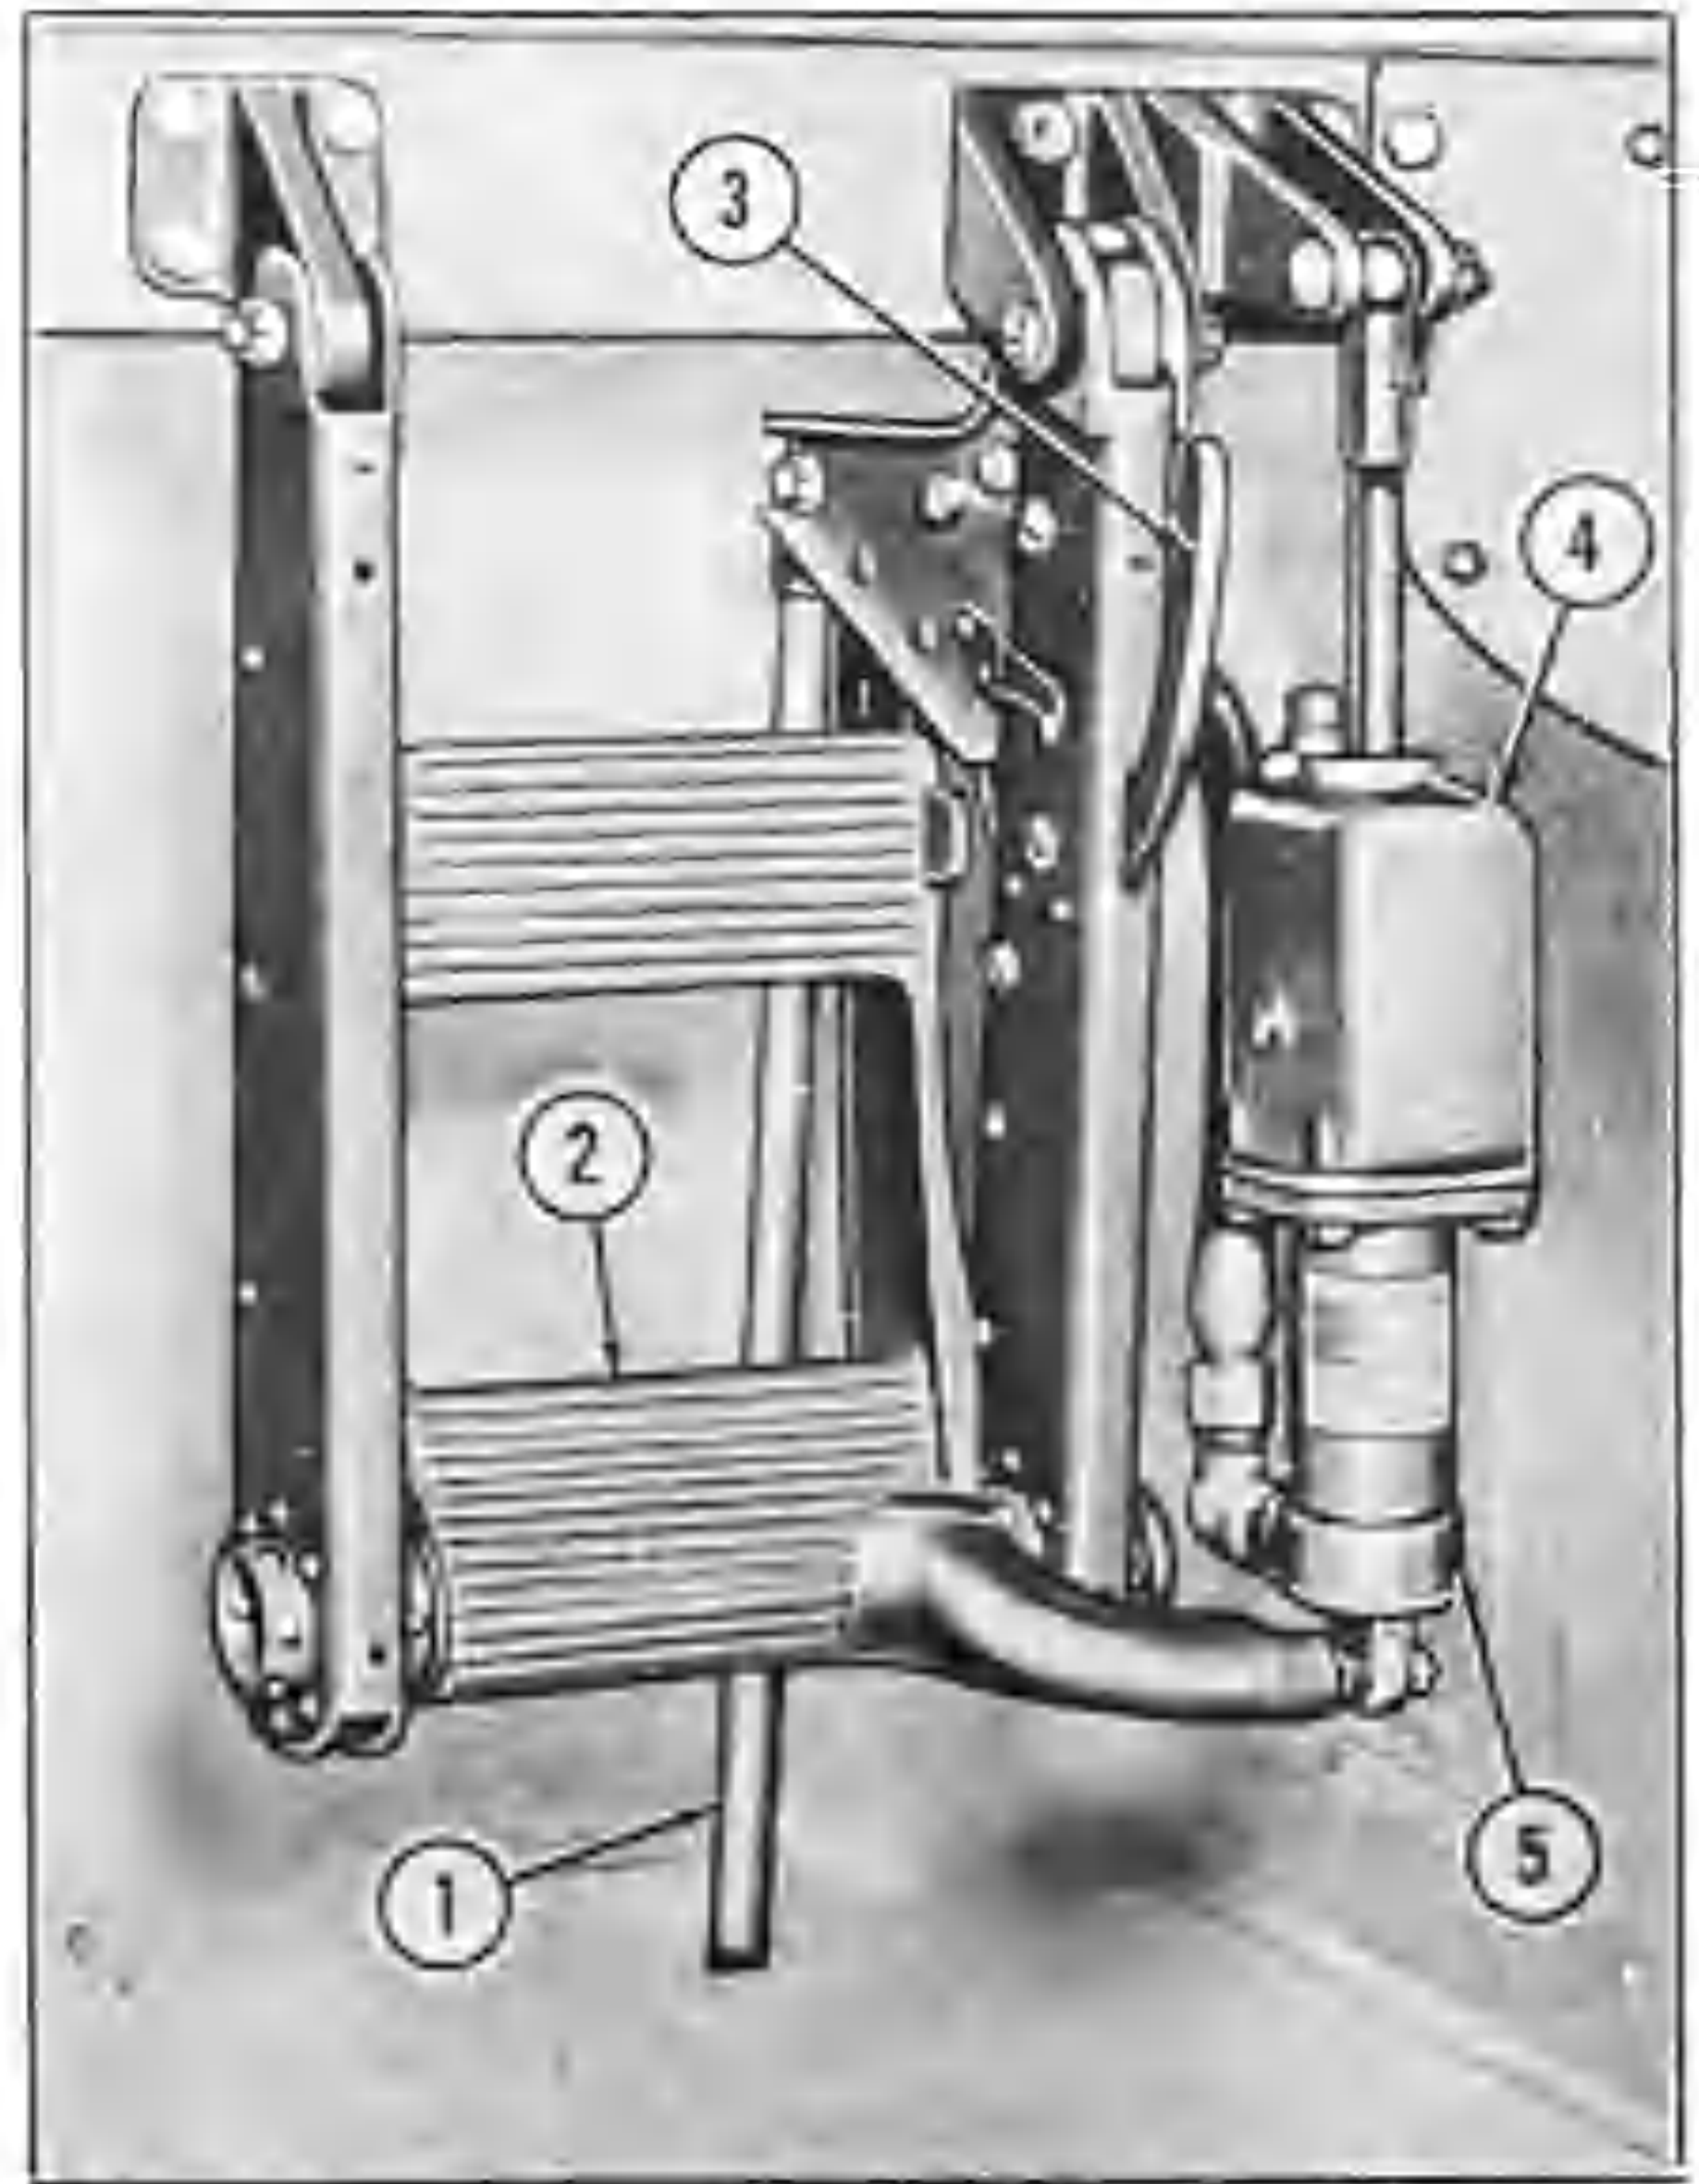

Figure 17 — Rudder and Brake Pedal
(6) BRAKES. — The brake hydraulic systems are entirely independent of each other and of the main hydraulic system. (See figure 17.) The brake reservoir is carried on the rudder pedal as an integral part of the brake master cylinder. (See 4, figure 17.) The action of the brake pedal is conventional: pressing the upper end (toe end) of the rudder pedal forward actuates the master cylinder and applies the brake. No provision is made either for parking brakes or for adjustment of the brake control relative to the rudder pedal.
(7) ARRESTING HOOK CONTROL. — The arresting hook control of the F2G-2 is on the forward left-hand control panel beside the landing gear control. The two controls are so designed that it is impossible to lower the arresting hook without first extending the landing gear, and likewise impossible to retract the landing gear without first raising the arresting hook.
(1) GENERAL. — Aileron, elevator and rudder controls are conventional. All three of these major control surfaces are equipped with trim tabs, adjustable from the cockpit. The ailerons and elevators also have servo tabs for the purpose of reducing stick loads.
(2) RUDDER PEDALS. (See figure 17.) — The rudder pedals may be adjusted for the comfort of the pilot. To adjust the pedals rearward, hook the toes under the pedals and pull both pedals back as many notches as desired. To adjust them forward, press the toes on the ratchet pawls; this releases the ratchets and lets the pedals swing full forward, from which position they may be pulled